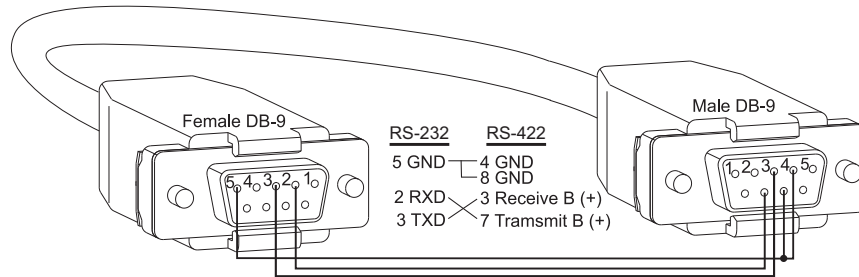

FIG. 96 RS-232 when toggle switch is set to CTL
- When a controller is attached, use the cable pinout in FIG. 96 and set the toggle switch on the board to CTL.